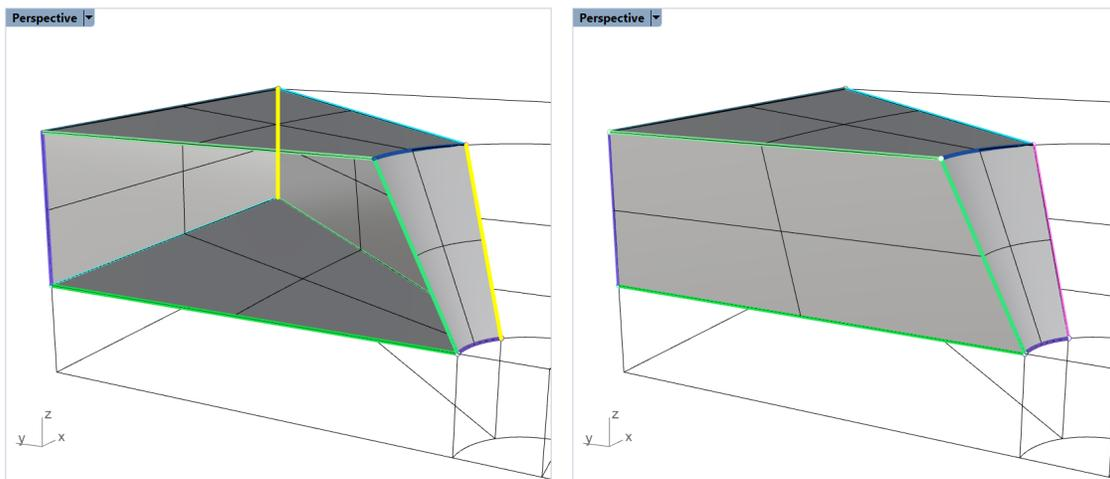

Figure 44: Building surfaces of the first solid.
- Now, select only pairs of lines/curves composing the remaining surfaces of the first solid and **_Loft** them. In total, six sides must be created as in Figure 44.